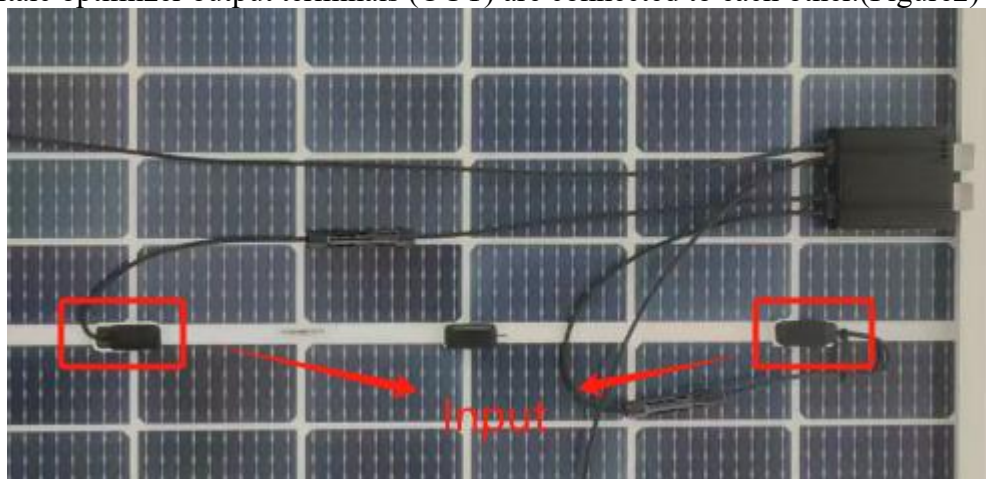

Figure1
- 1) The input (IN) of the photovoltaic optimizer is connected to the photovoltaic module.(Figure1)